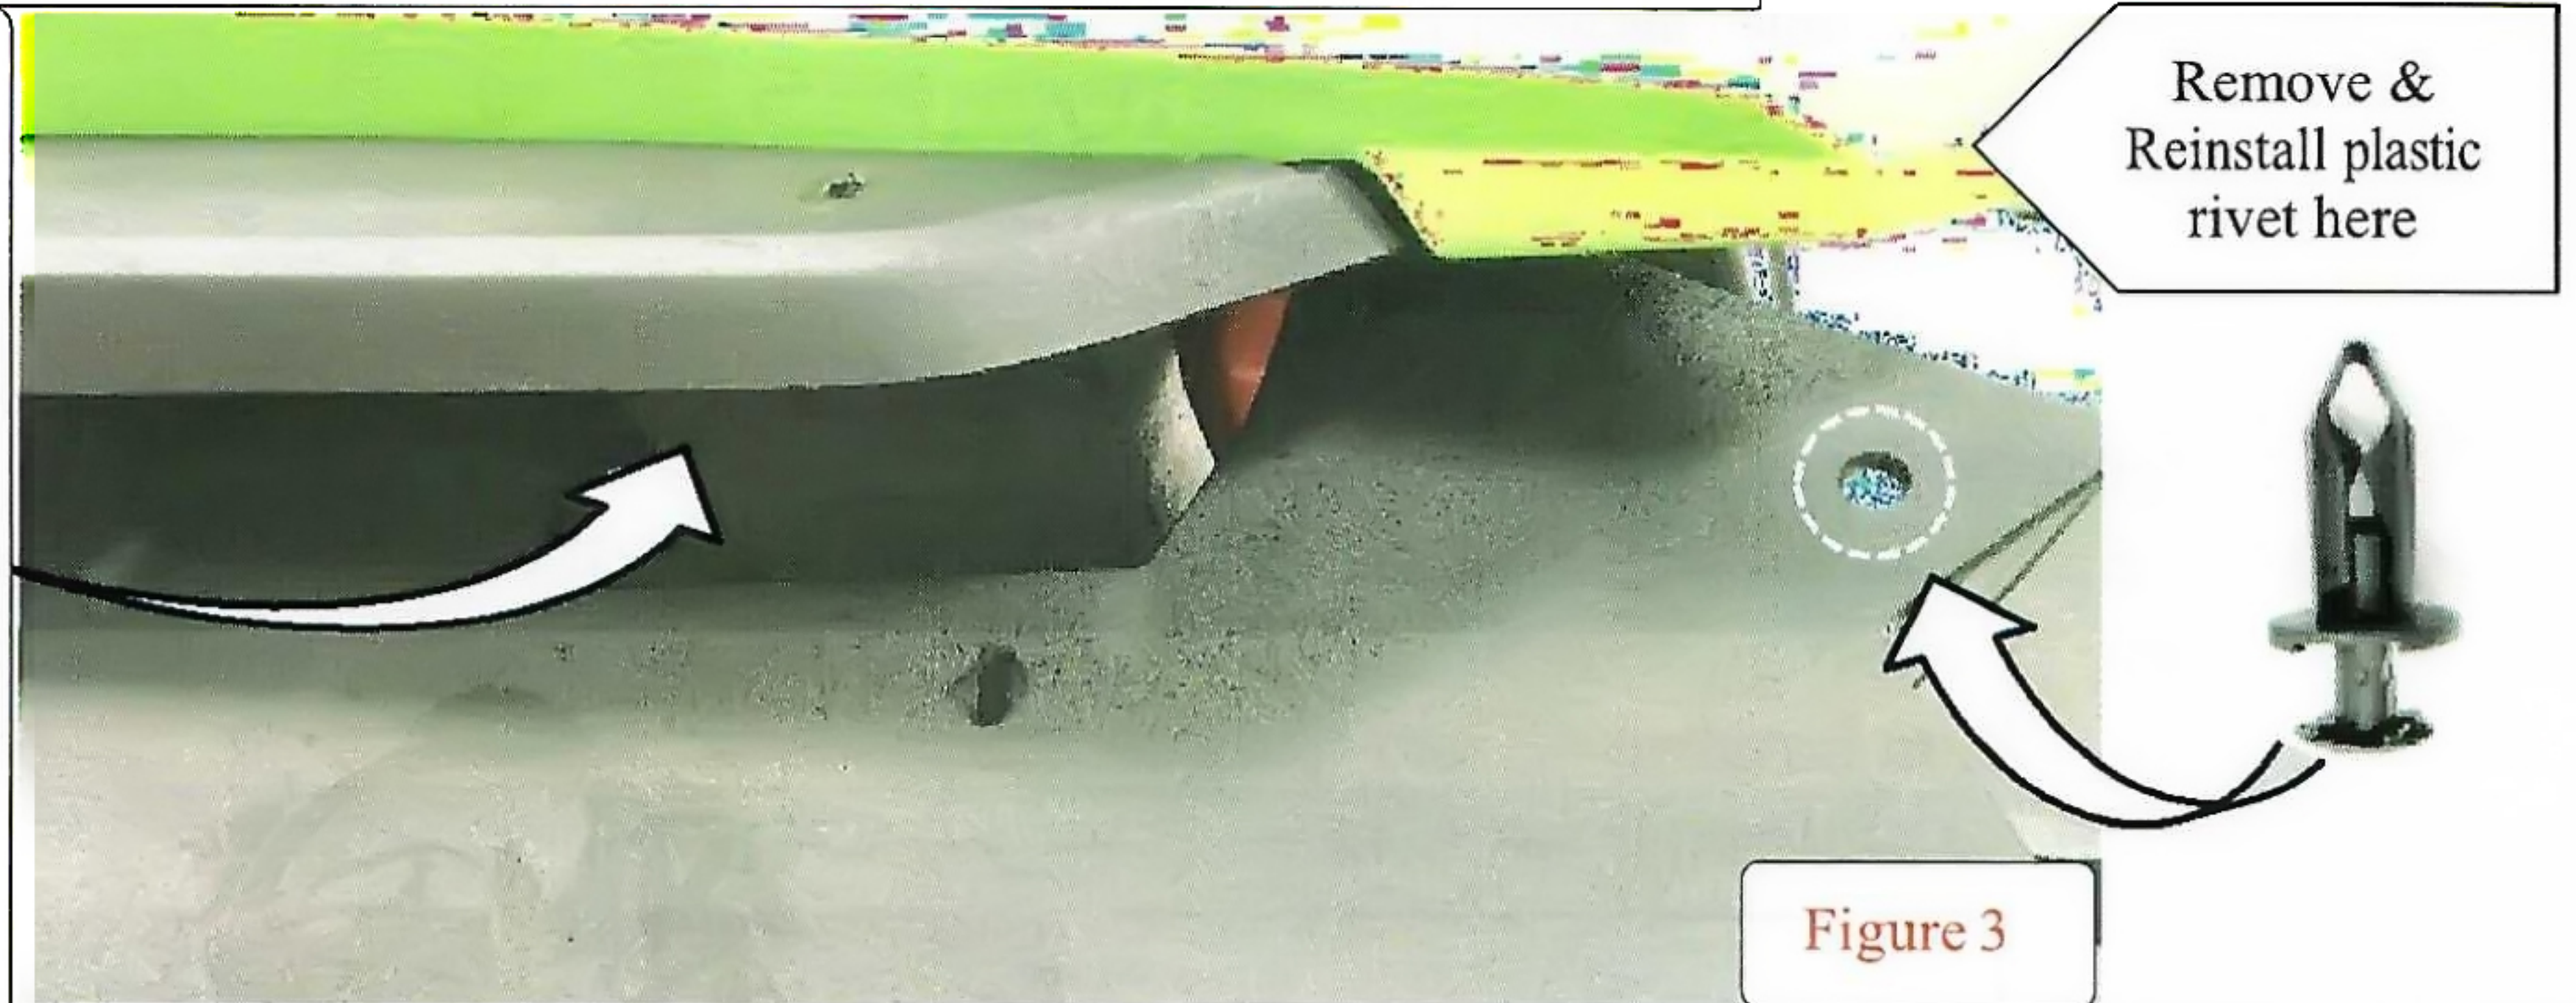

Figure 3
- 2) Slip the cut-out section located in the rear of the fender extension around the brake light and rear fascia as shown in Figure 3.
- 3) Place the rear of the fender against the body and insert a plastic rivet as circled in Figure 3.